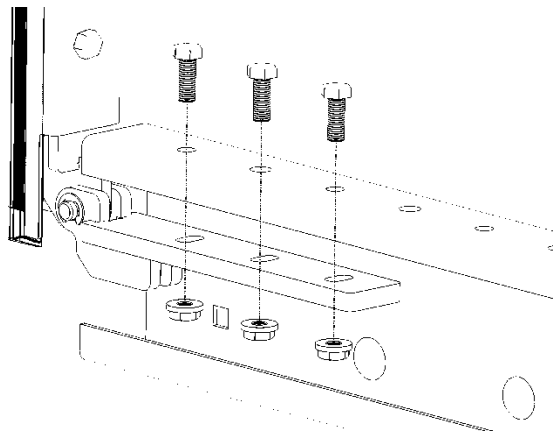

Figure 6: RLVD CG Installation-2
| Figure 6: RLVD CG Installation-2 | 10 |
3. Fasten the hinges to the conveyor using the 5/16"-18 hardware that came with the ship loose kit. The three slots in the hinges will line up with the holes in the top of the side frames. (See Figure 6)